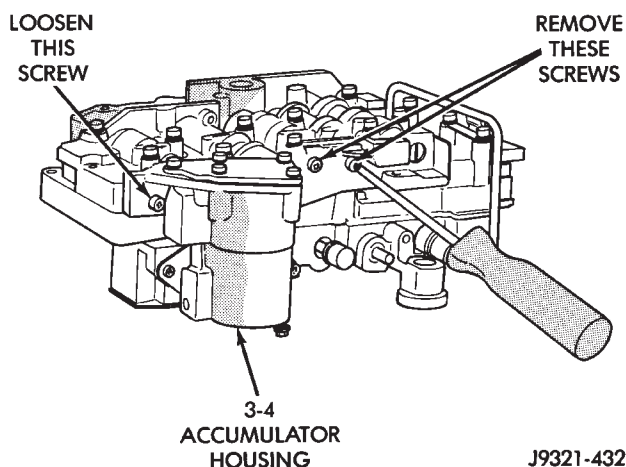

Fig. 108 Accumulator Housing Screw Locations
(20) Loosen left-side 3-4 accumulator housing attaching screw about 2-3 threads. Then remove center and right-side housing attaching screws (Fig. 108).